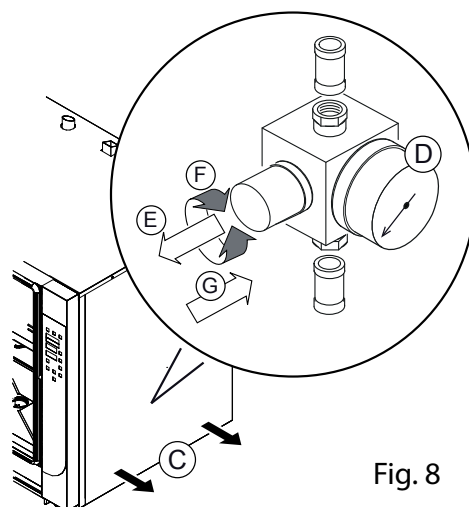

Fig. 8
- Unscrew and remove the right side panel (Fig. 8 C)
- Check the value on the pressure gauge (Fig. 8 D) that, in relation to the entry pressure of 2.5 bar, should be: **Mod. 4 / 6** = 90 ml/minute = quantity of water exiting the humidifier pipe; **Mod. 10** = 100 ml/minute = quantity of water from the humidifier.
- Release the adjustment knob: pull slightly (Fig. 8 E), Rotate clockwise or counter-clockwise (Fig. 8 F) until reaching the desired pressure/waterflow and press to lock the device in the parameters set (Fig. 8 G).